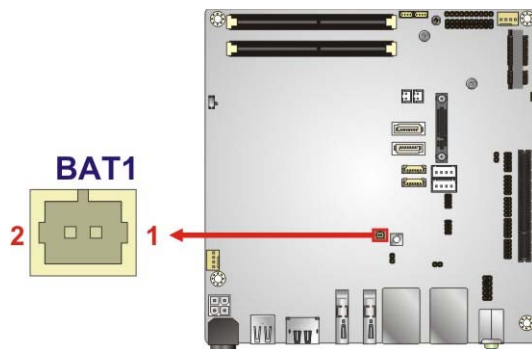

Figure 3-5: Battery Connector Location
- CN Location:** See **Figure 3-5**